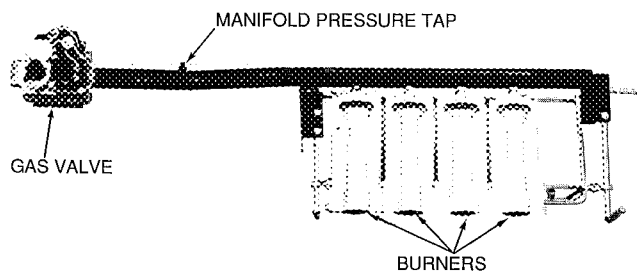

Fig. 33 – Burner Tray Details
12. Slide the burner tray out of the unit (see Fig. 33).